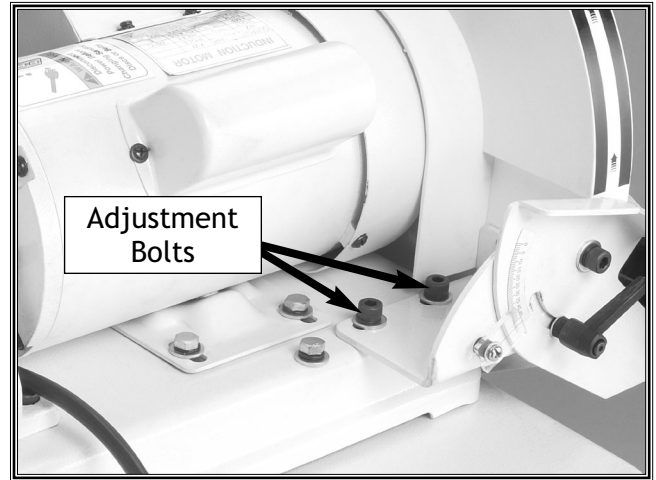

Figure 14. Disc table adjustment bolts (only 2 of 4 shown).
3. Loosen the four table adjustment bolts (Figure 14).